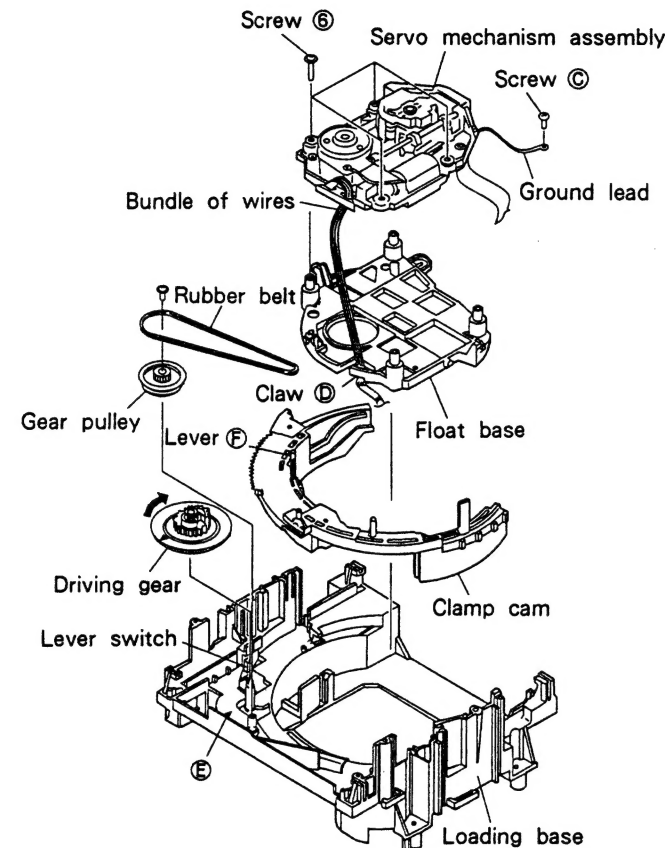

Fig. 2 - 2.
2.3 REMOVING THE FLOAT BASE (See Fig. 2 - 2.)
- ① Remove the servo mechanism assembly. (See 2.2.)
- ② Rotate the driving gear in the clockwise direction fully. The clamp cam will rotate in the counterclockwise direction, and the float base will rise.
- ③ After removing the bundle of wires from claw ⑨ of the float base, remove the float base.